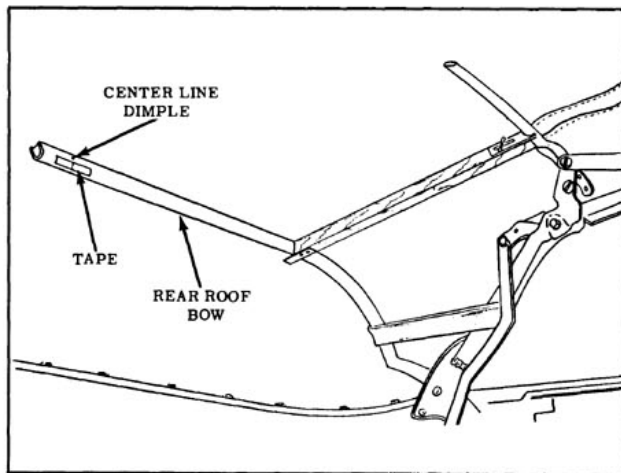

Fig. 16-143 Marking Rear Roof Bow
24. Along forward surface of rear roof bow, install a 1" piece of tape at centerline dimple of rear roof bow. Using a pencil, mark centerline of rear bow on tape. (Fig. 16-143)
NOTE: The deck seam mark will vary slightly ($\pm 1/4''$) depending upon position of rear roof bow. Also check centerline mark on inner lining of top material. Mark should correspond to centerline mark on rear roof bow. (Fig. 16-143)